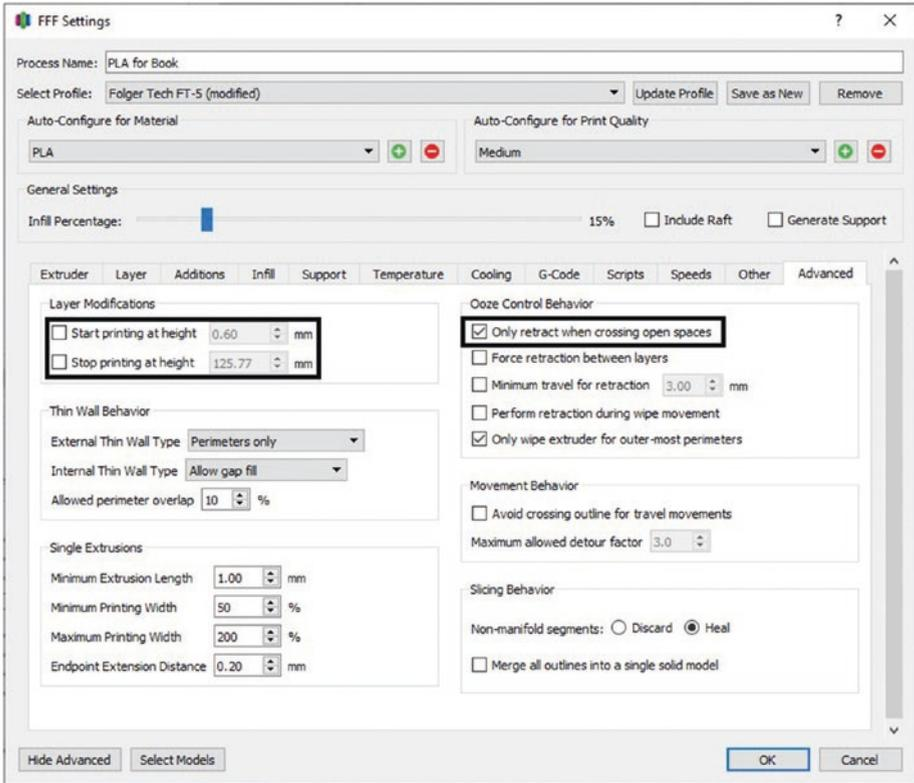

Figure 4-30. Advanced tab
12. Tab 12: Advanced (see Figure 4-30)